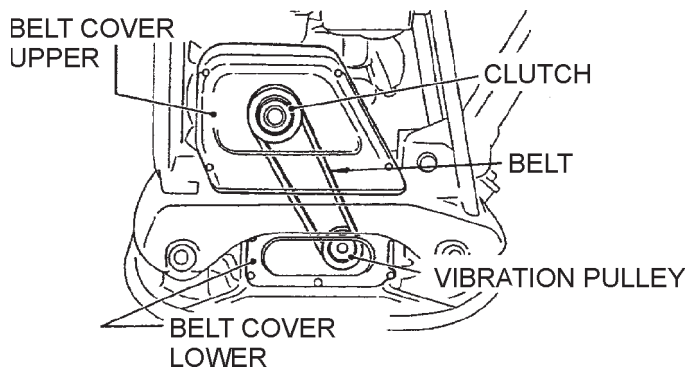

Figure 21. V-Belt Check
1. Remove the V-belt cover (Figure 21).